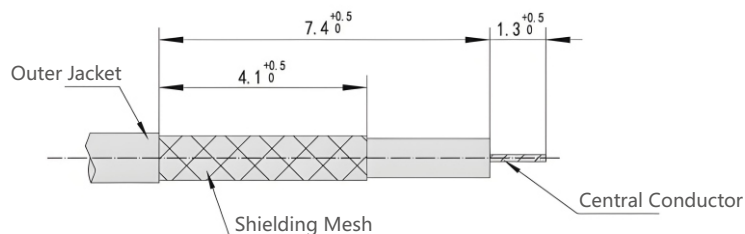

Figure 2.6
- ①As shown in Figure 2.6, strip the cable. The end must be cut clean and form a right angle with the cable's axial surface. The cable must not be deformed during cutting.